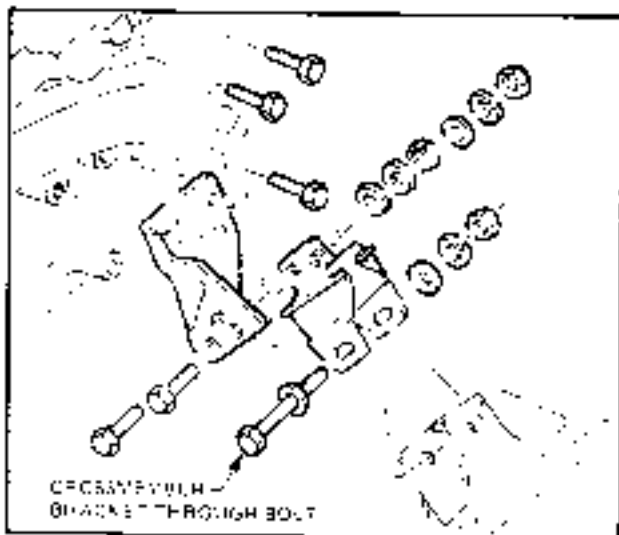

Figure 6A-31
30. Disconnect exhaust system from exhaust extractors. Refer Fig. 6A-32.